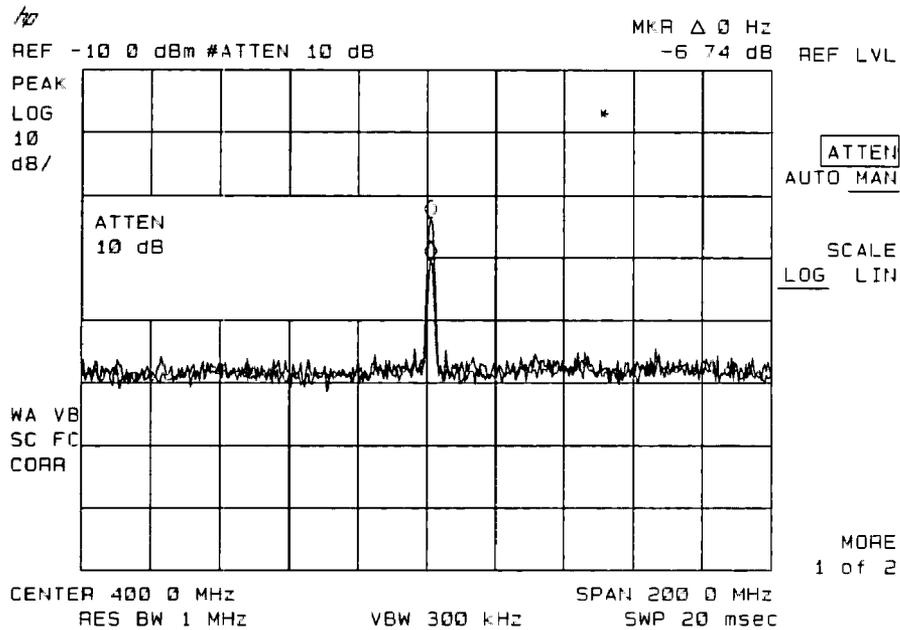
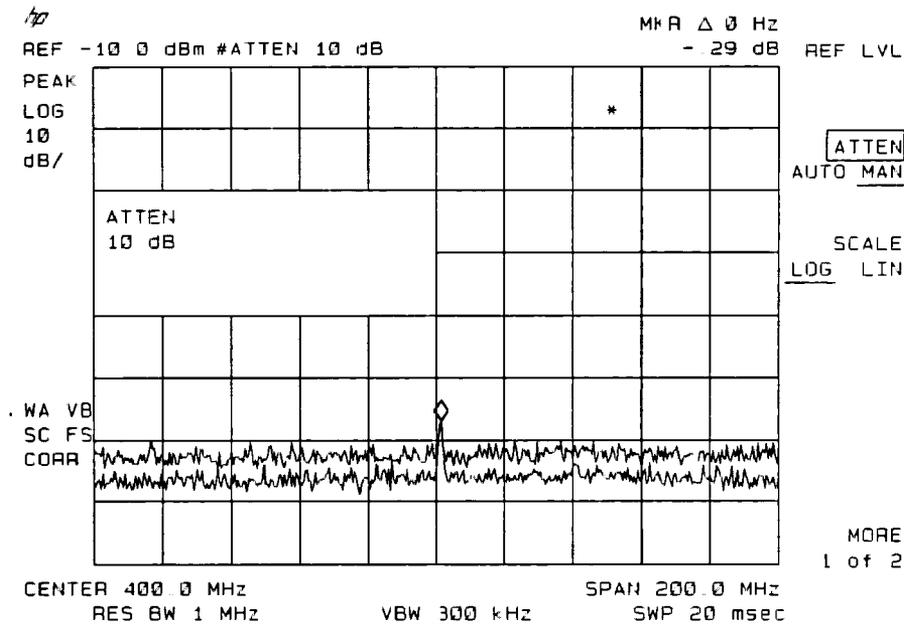

Figure 6-21. RF Attenuation of 10 dB
Figure 6-22. No Harmonic Distortion
5. Next, increase the RF attenuation by 10 dB, press **AMPLITUDE**, **ATTEN AUTO MAN**, and the step up key (**▲**) once. (See Figure 6-21.)
If the responses in trace A and trace B differ, as in Figure 6-21, attenuation is required. If the distortion was not caused internally, there would be no change in the signal level. For example, the signal amplitude in Figure 6-22 is not high enough to cause internal distortion in the analyzer.